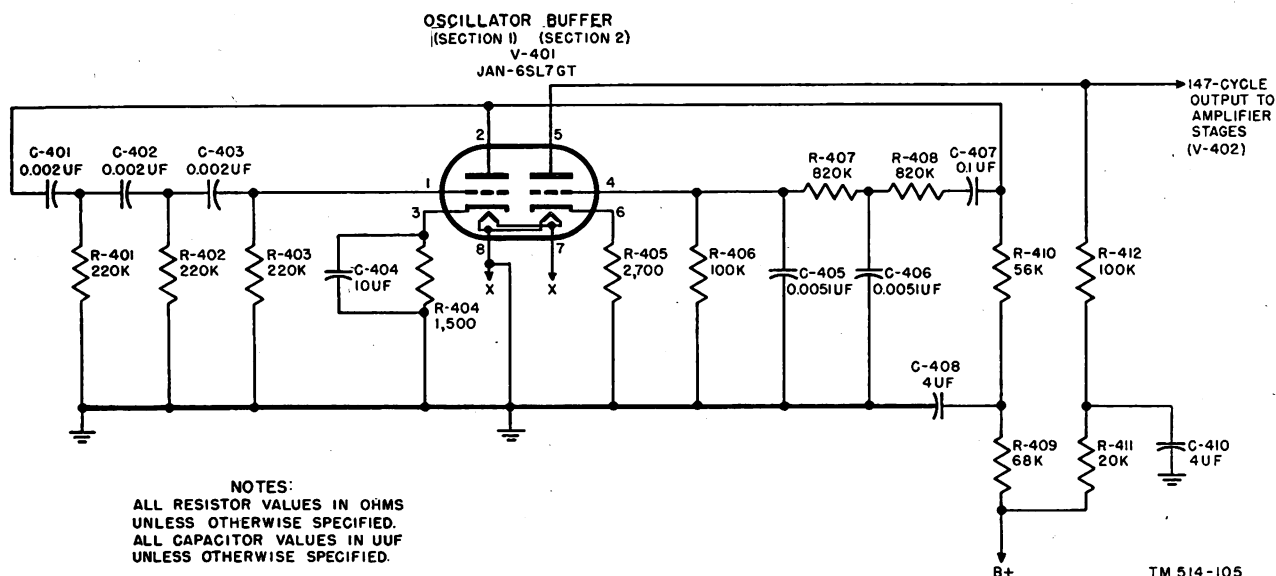

Figure 59. Modulating Voltage Generator O-15/CRD-2, oscillator and buffer stages, schematic diagram.
a. **OSCILLATOR STAGE.** The 147-cps master audio oscillator (fig. 59) uses section 1 of tube V-401 in an R-C (resistance-capacitance) phase shift type of oscillator circuit.
(1) The network consisting of capacitors C-401, C-402, and C-403, in combination with resistors R-401, R-402,
- (2) R-404 is the cathode bias voltage resistor, and C-404 is the cathode a-f bypass capacitor. R-410 is the plate load resistance. Capacitor C-408 in combination with resistance R-409 form a decoupling network to prevent a-f energy from entering the power supply circuits.
- (3) The oscillator output voltage is coupled to the input circuit of the buffer stage by means of capacitor C-407.
b. BUFFER STAGE. Section 2 of tube V-401 is a buffer amplifier (fig. 59) which is used to isolate the oscillator from variations occurring in following stages. This isolation prevents load changes from causing distortion of the oscillator output voltage and shifts in the frequency of the oscillator. The buffer uses a con-